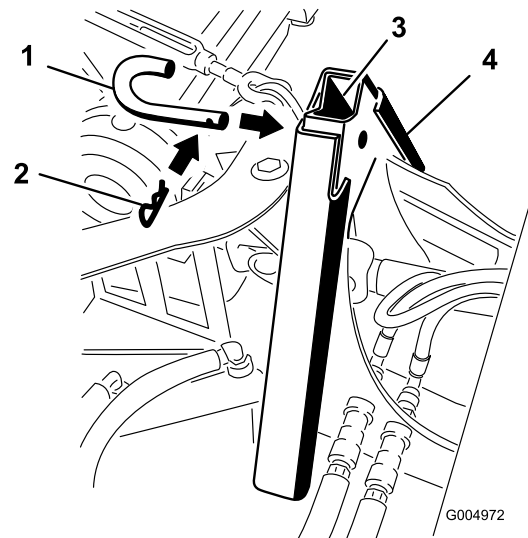

Figure 14
- Secure the adapters together with the attachment pin and hairpin cotter as shown in Figure 14. For more abusive loading a nut and bolt may be substituted.